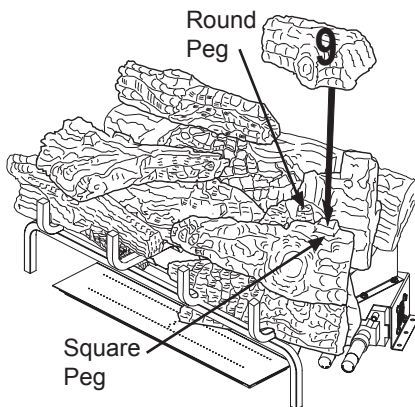

Figure 45 - Installing Log # 9
9. Place the top right log (#9) on top of the right rear chunk log (#7) and front right mid log (#8) as shown in Figure 45. Match the round peg on the top of the right rear chunk log (#7) with the round hole on the bottom of the top right log (#9) and square peg on the top of the front right mid log (#8) with the square hole on the bottom of the top right log (#9).